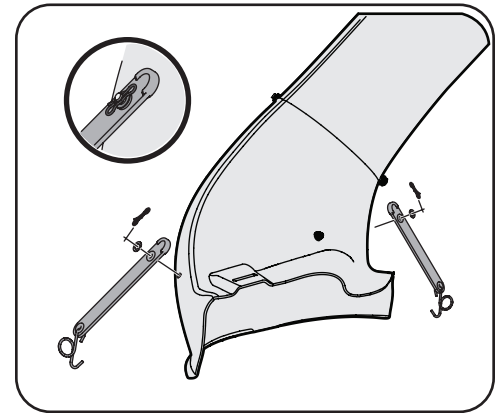

Figure 4-12
3. Install the rubber chute straps, from hardware pack 689-00579, onto the chute elbow using the clevis pin (711-05063), washer (736-0204) and Bow-tie cotter pin (714-04040) from the hardware pack. See Figure 4-12.